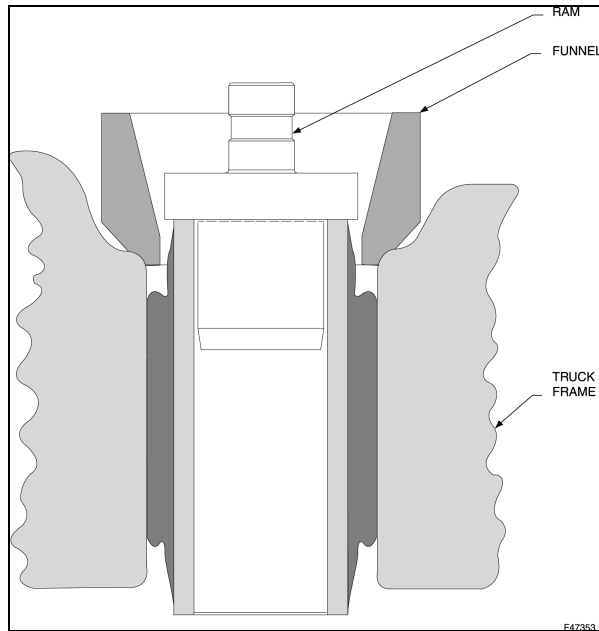

Figure 44 – Carbody Pivot Rod Traction Bushing Installation
- Using the ram tool shown, see Figure 44 apply P-80 lubricant to the retaining ring (2 per bushing), and push the retainer ring into position with about 6,500 lb. force.